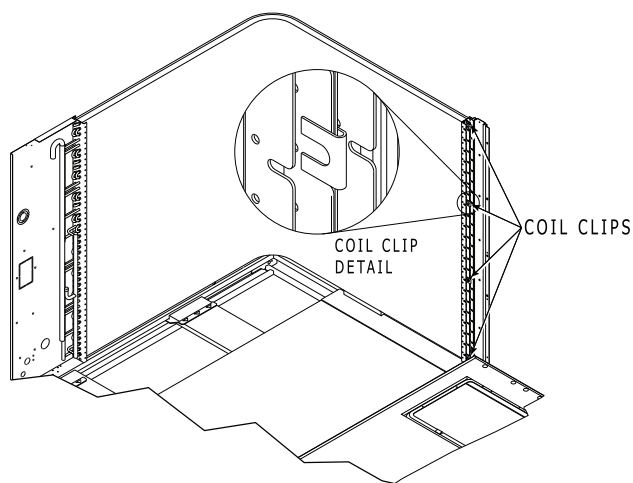

Fig. 19 — Condenser Coil Clips
5. Remove the screws from both sides of the 4 coil retaining clips on the hairpin end of the coil tube sheets. See Fig. 19.